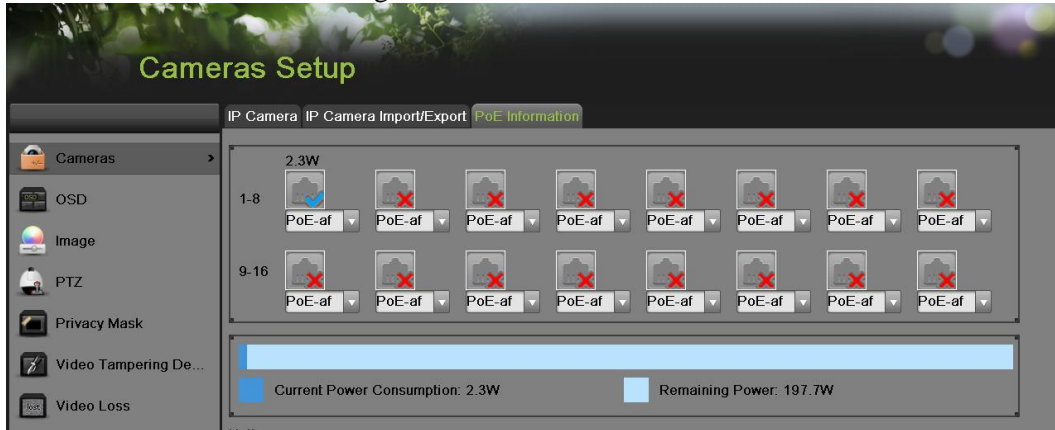

Figure 119 PoE Information interface
1. Enter the Cameras menu by going to Menu > Cameras Setup > Cameras. Select the PoE Information tab, as shown in Figure 119.